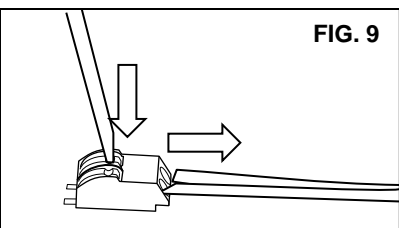

FIG. 9
- Detach the LED DRIVER WIRES from the LED TERMINAL BLOCK by depressing down on the provided TERMINAL TABS. (FIG. 9)